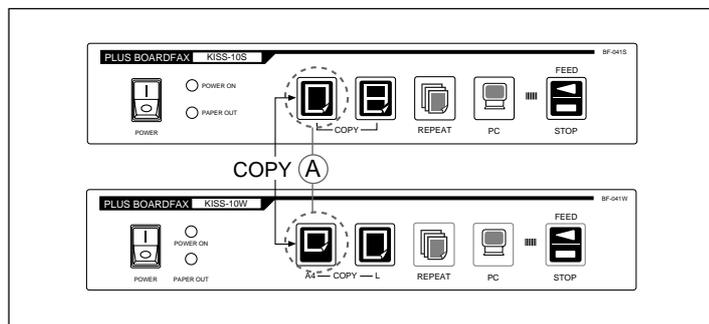

Fig. 2
- 3) Start the quick calibration. (See Figure 2.)
- Turn ON the POWER while pressing and holding the COPY button as shown in portion A of Figure 2. The POWER ON lamp blinks, and the fluorescent lamp lights after four or five seconds.